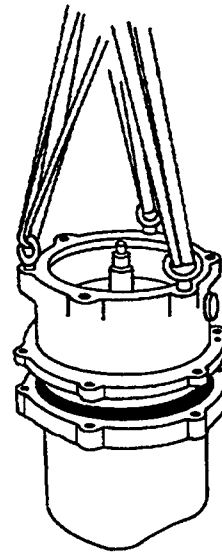

Figure 6. Separating Upper and Lower Motor Housings
See Figure 6, and install three 5/8-11 UNC lifting eyes (not supplied) in the tapped holes for the capscrews (53) in the lower motor housing, and hook a three-leg sling to the lifting eyes. Use a suitable hoist to support the pump.